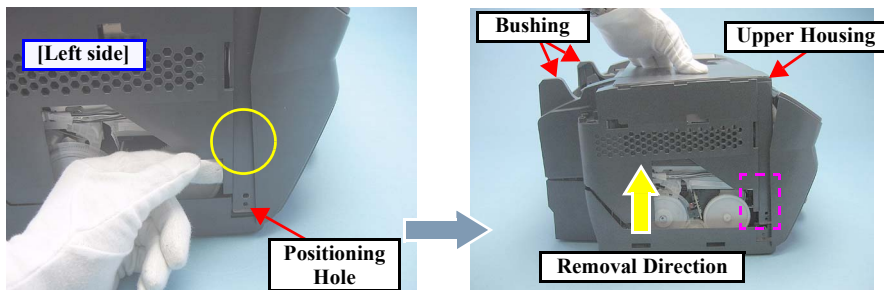

Figure 4-22. Removing the Upper Housing (2)
- Be careful not to let the cables get caught under the Upper Housing at the position indicated with  in Fig.4-22.